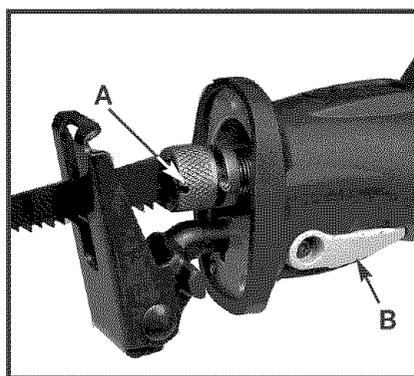

Fig. 3A
4. Insert the blade into the clamp until it hits bottom. Allow the release collar (A) **Fig. 3A** to rotate clockwise to lock the blade in place. Close locking lever (B).
- (A). Allow the release collar to rotate clockwise to lock the blade in place as shown in (A) **Fig. 3A**.